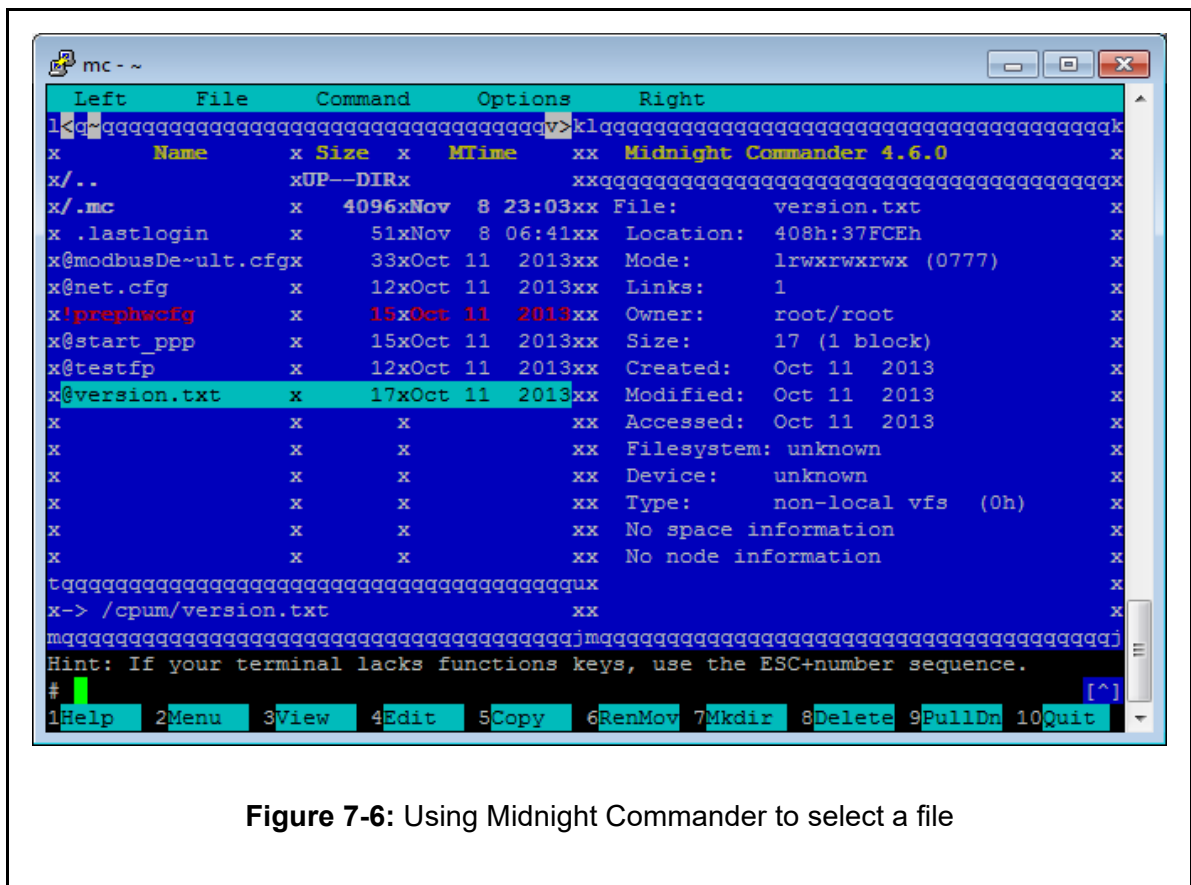

Figure 7-6: Using Midnight Commander to select a file
- 1- In a Midnight Commander directory panel, navigate to a file (for example, `version.txt`), as shown in Figure 7-6 (left).